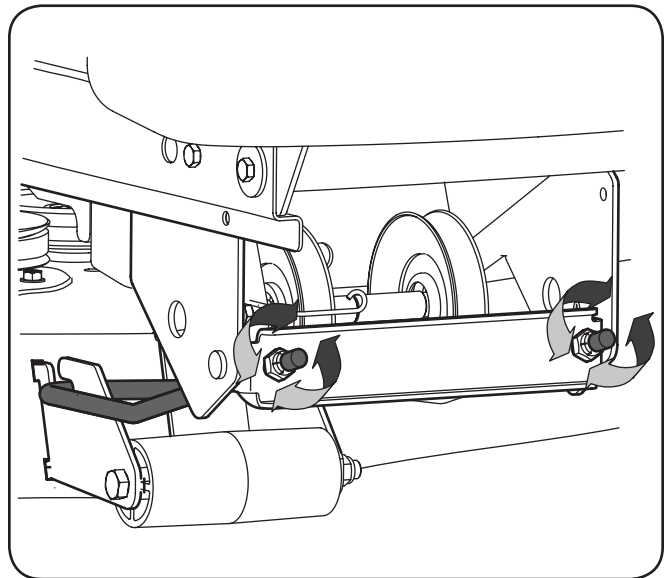

Figure 6-10
5. To *lower* the front of the deck, loosen (thread outward) the hex nuts, away from the front hanger bracket. See Fig. 6-10.